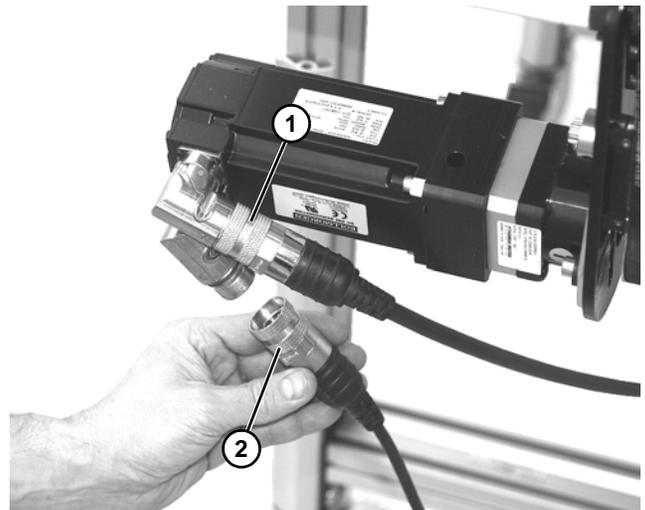

Figure 55
1. Disconnect motor power connector (Figure 55, item 1) and feedback connector (Figure 55, item 2).
- Disconnect motor power connector (**Figure 55, item 1**) and feedback connector (**Figure 55, item 2**).